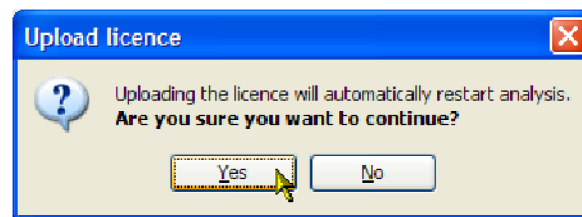

Figure 30: Upload license message box (RUI v3.0 and above)
- Click **Yes** to confirm the upload in the Upload License message box. (See Figure 30.)